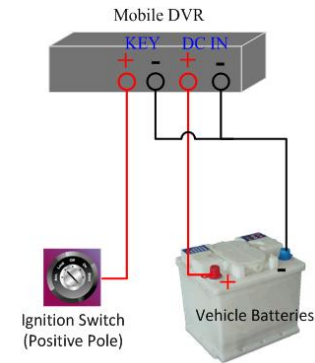

Fig 2.8 KEY connect with positive ignition switch
(1) Connection of Positive Pole Switch (Fig 2.8):